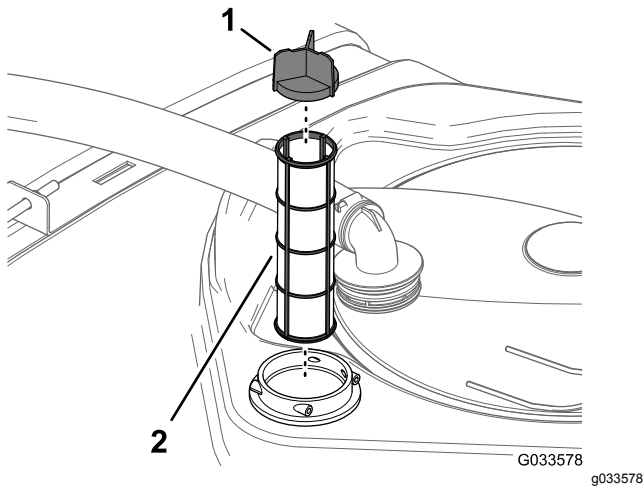

Figure 47
- Pull the suction strainer out of the filter housing in the tank (Figure 47).